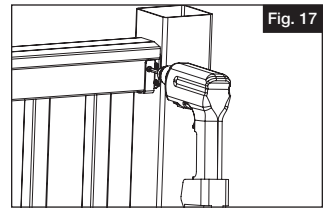

Fig. 17
- b. Using a $\frac{5}{32}$ " drill bit, predrill the top rail in the two locations on the metal bracket. Install #10 x1" screws in pre drilled holes of each of the metal brackets (Fig 17).